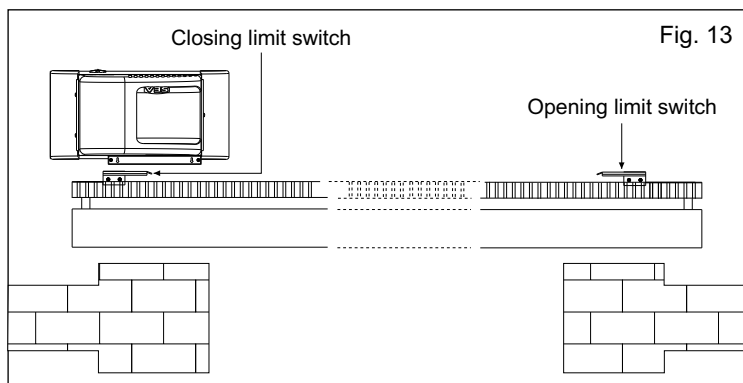

Fig. 13
**7.1.** To set up and adjust the limit switches in opening, follow the instructions written here (Fig. 13):
**7.2.** To set up and adjust the limit switches in closing, follow the instructions written here (Fig. 13):